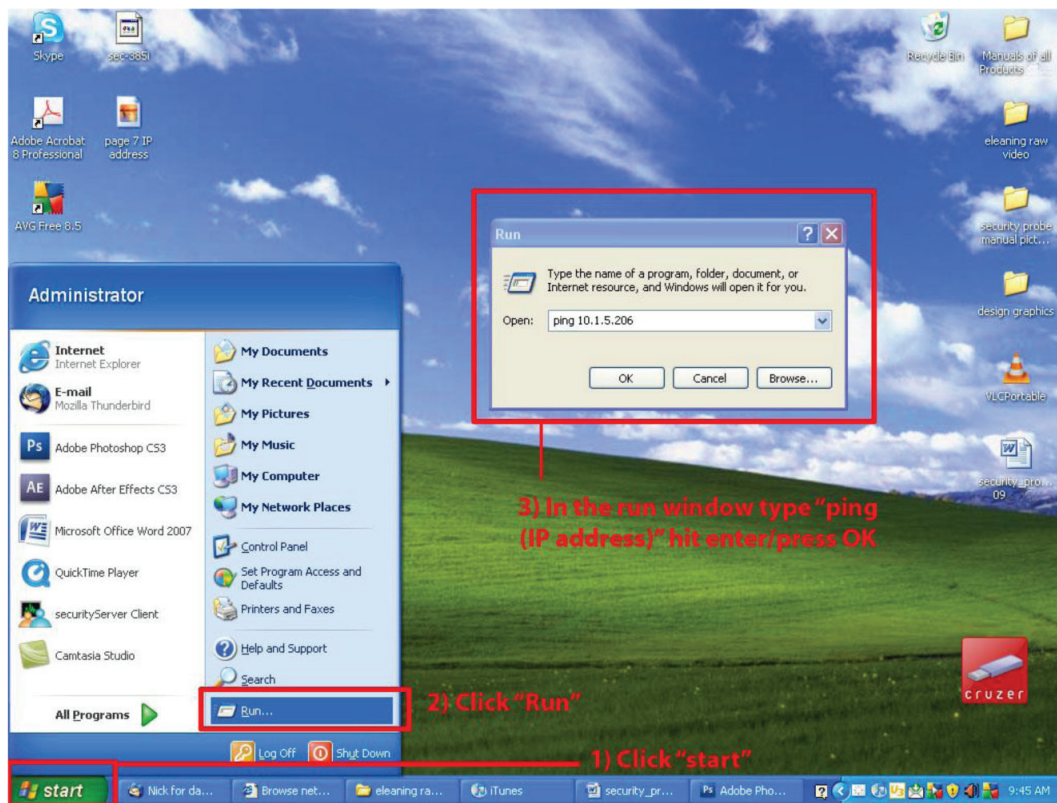

Figure 3-5. Ping Command screen.
Once you assign the new IP address, use the "ping" command to test the ServSensor V4E Lite. You can also use this command as a diagnostic tool to check whether your unit is connected to the network. See Figure 3-5.
3. Type "ping (IP address that the user entered)," and press Enter. An example IP address (10.1.5.206) is shown in Figure 3-5.